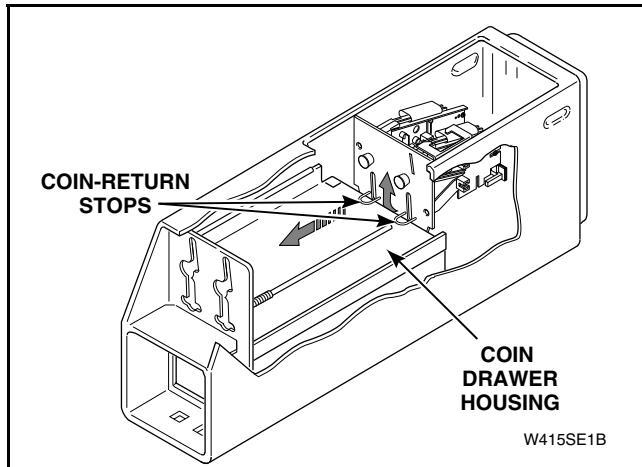

Figure 18
- n. Rest the two coin-return stops on top of the coin drawer housing. Refer to *Figure 18*.